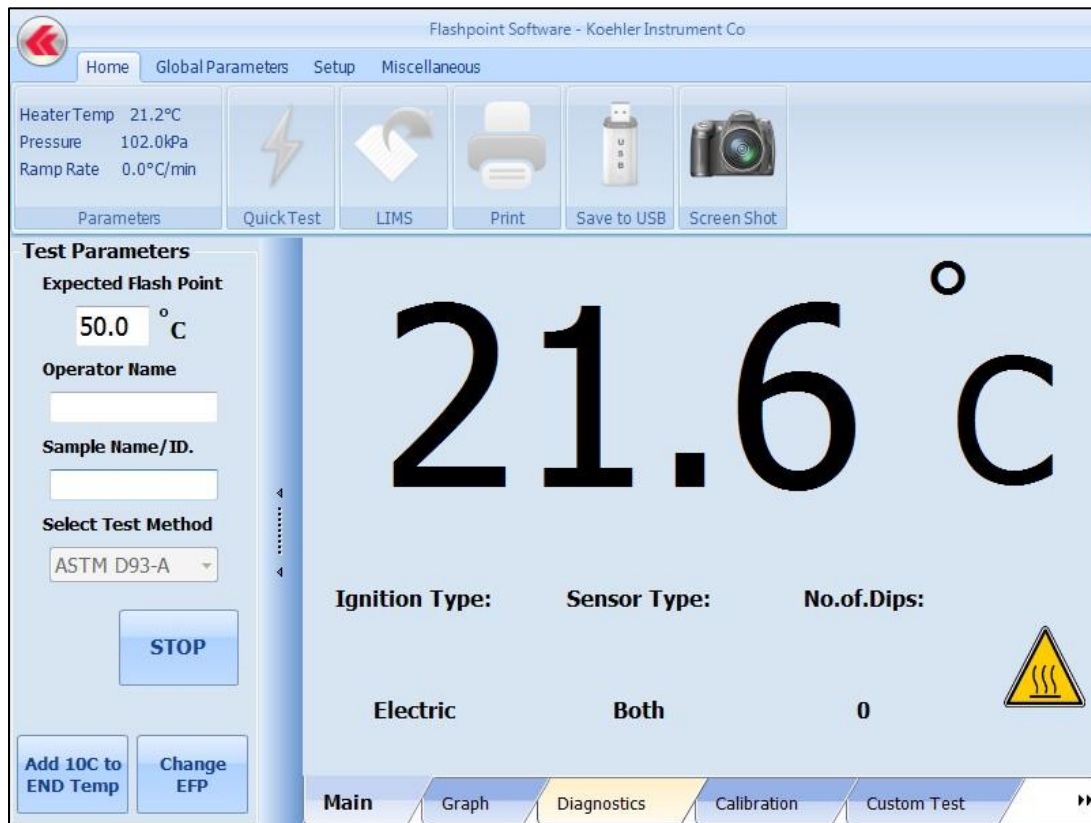

Figure 13: Test Screen
- h.  **Heat Icon** - When this icon is displayed, the sample is heating. See **Figure 13**.
6. **Test Screen** - While the Flash Point test is being performed, the Test Screen will be displayed. See **Figure 13** below. The current temperature of the test is displayed at the center of the screen. The **Ignition Type** being used, the **Sensor Type** which will detect the flash point, the **Number of Test Dips** that have occurred so far and a **Heat Icon** showing that the system is heating up are also displayed on the screen. On the left side the test parameters are displayed. This includes the **Expected Flash Point**, the **Operator Name**, **Sample Name/ID.**, and **Select Test Method**. **STOP** allows the user to stop the test before it is over and **Add 10C to END Temp** allows the test to be extended. If at any point the operator wants to change the expected flash point, they can click **Change EFP**.